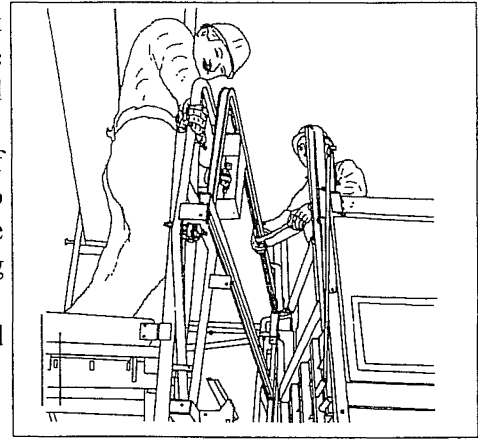

Fig. 23 Mounting the landing level safety gate
- Position the remaining scaffold couplings, so that the landing level safety gate is bolted at 4 points (see Fig. 23).
- The opening width of the landing level gate must be set at the stop (1) on the lower runner rail. It must only be possible to open the gate far enough so that the side-piece of the left gate remains located above the loading flap